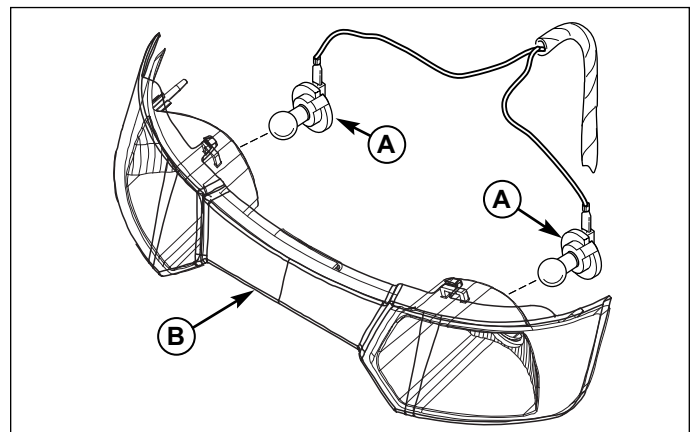

Figure 14. Head Light
2. Remove the socket and bulbs (A, Figure 14) by twisting the socket counterclockwise and pulling it out of the bezel (B). Repeat on other side.